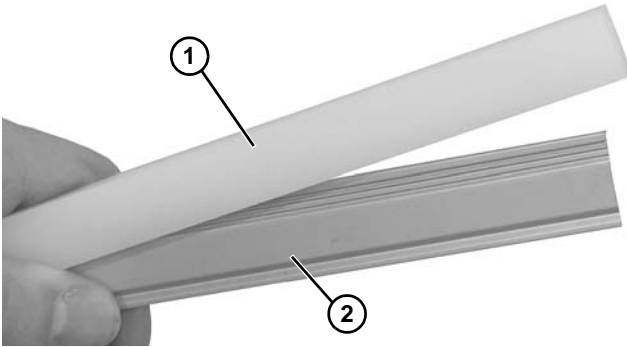

Figure 77
- Attach slide rail (Figure 77, item 1) to guiding (Figure 77, item 2).